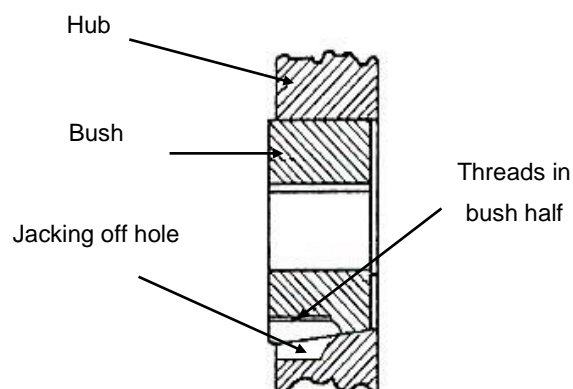

FIG 18.
C. Remove one or two screws, apply oil to the thread and the points and screw them into the jacking-off holes. (Fig 18)